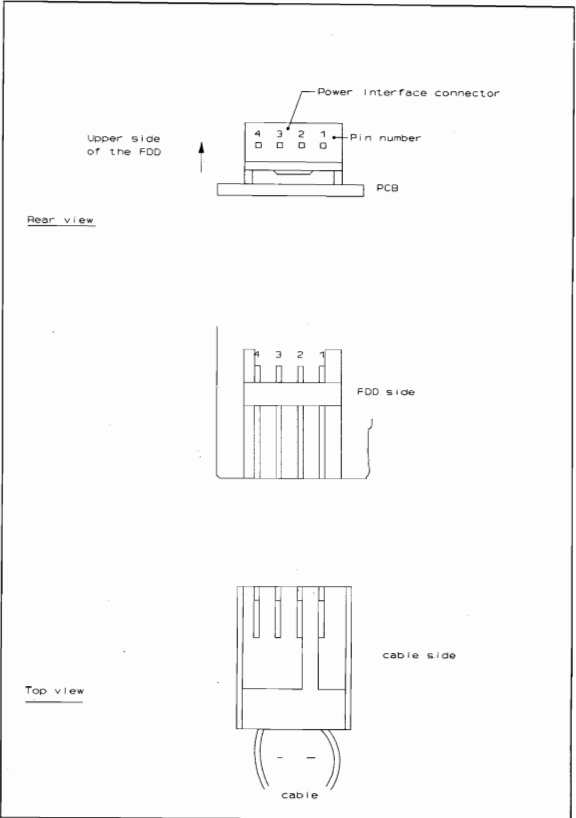

Figure 1 Power interface connector external view
- (b) Connector external view : See Fig. 1.